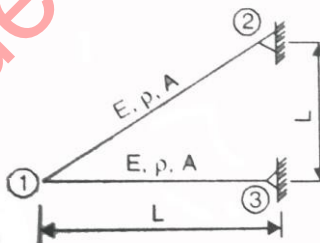

Figure 4
10. Find the natural frequency of the following truss bar (figure 4). [10]